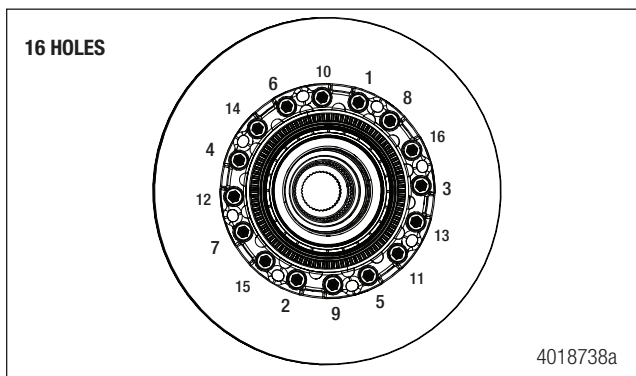

Figure 13.10
4. After the end of the tightening sequence, go back to the first bolt and check/re-tighten as needed. Figure 13.10.